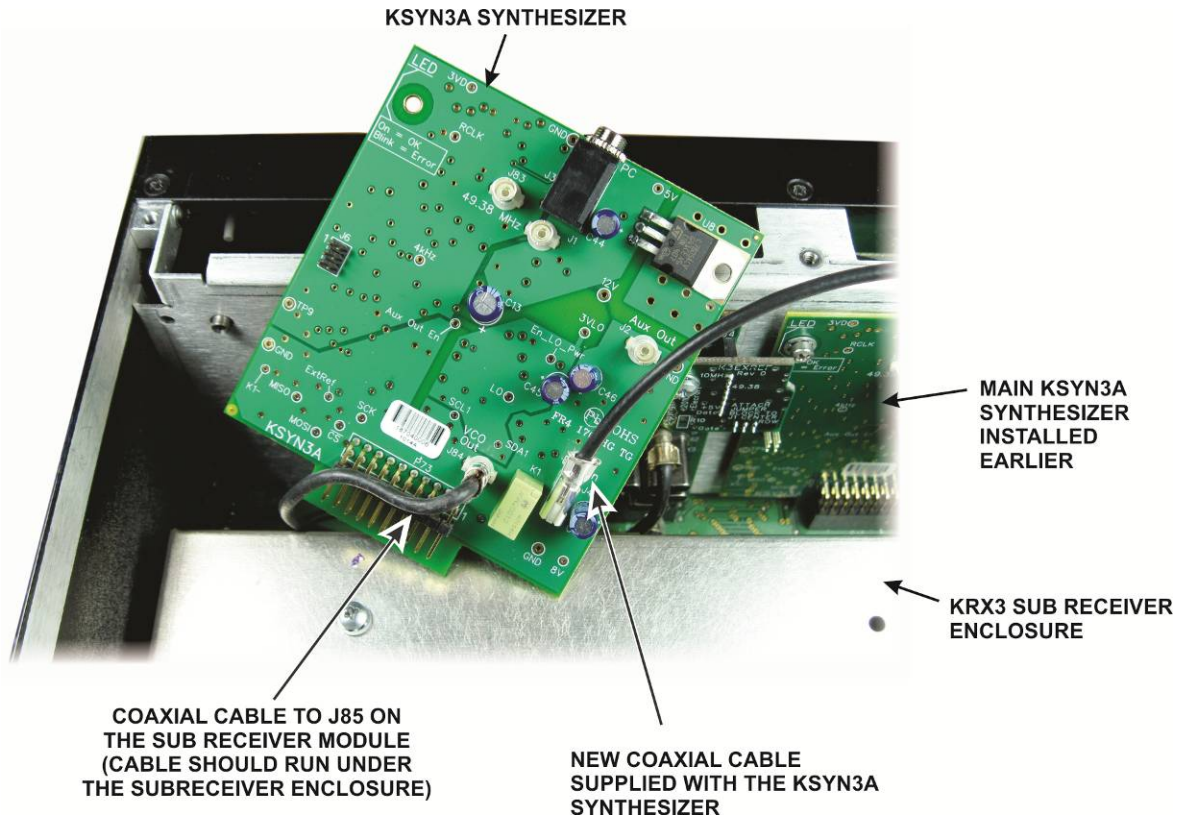

Figure 11. Preparing to Install the Auxiliary Synthesizer.
1. First attach two coaxial cables to the pc board before installing it as shown in Figure 11. Connecting these now will simplify connecting them later in the tight space between the sub receiver enclosure and the synthesizer.